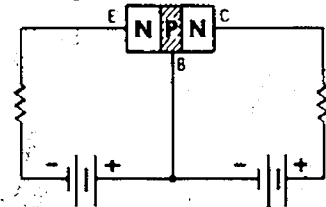

Figure 2-9
13. (Refer to Figure 2-9). The E-B junction is forward biased (+ to P and - to N) and the B-C junction is reverse biased (+ to N and - to P).